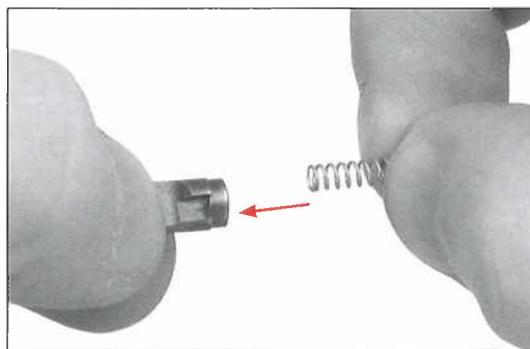

Fig. 204a
- If the spring should become separated from the safety, merely press either end back into its receptacle in the bottom of the safety. Compress the spring fully and turn it ¼ turn counter clockwise. When the spring is reattached to the safety, it should be reattached to the safety. If the spring is not firmly attached, it may fall into the recess and not provide proper spring tension to the safety. (Fig. 204a/204b)